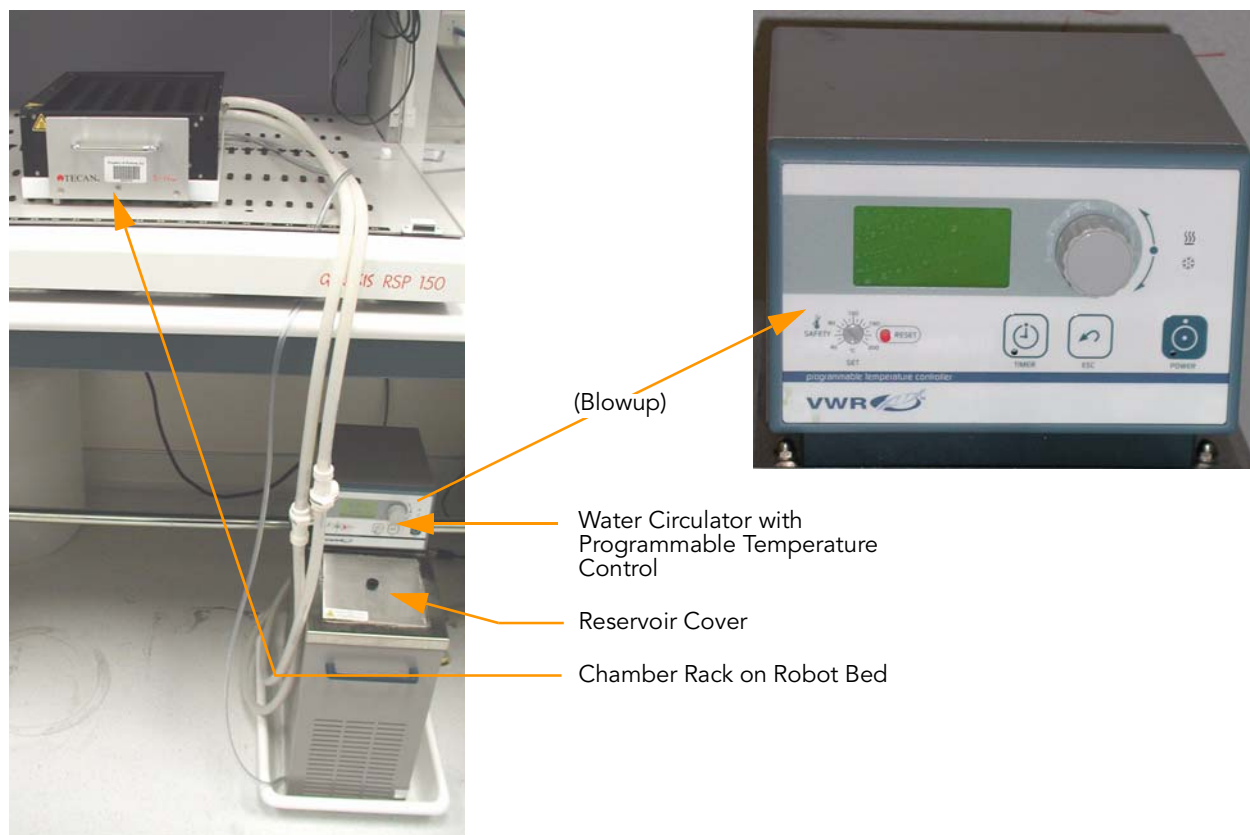

Figure 136 Water Circulator Connected to Chamber Rack
2. Turn on the water circulator and set it to a temperature that brings the Chamber Rack to 44°C at equilibrium (Figure 136).